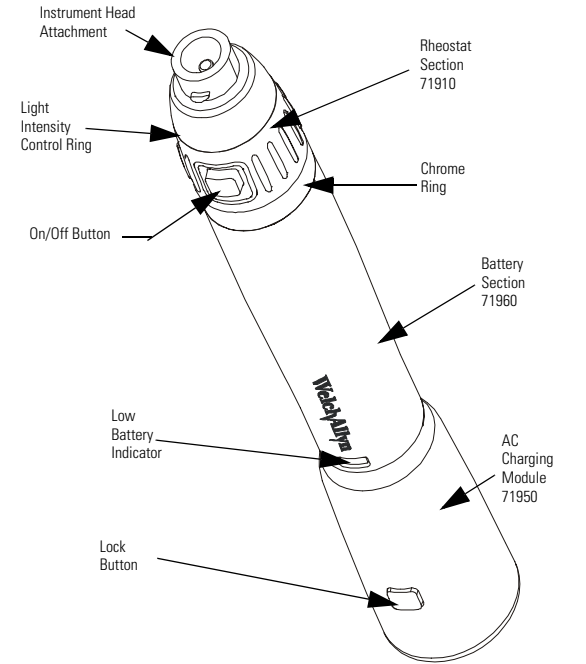

Figure 1
2. Depress On/Off Button on Rheostat Section and rotate the Light Intensity Control Ring clockwise (CW). To intensify light, continue to rotate until stop is reached (Figure 1).
3. To expose prongs, depress lock Button on the AC Charging Module (Figure 1). With the Lock Button depressed, slide Sleeve toward Rheostat Section.
1. The Low Battery Indicator will illuminate several minutes before handle shuts off depending on the age of the battery (Figure 1).